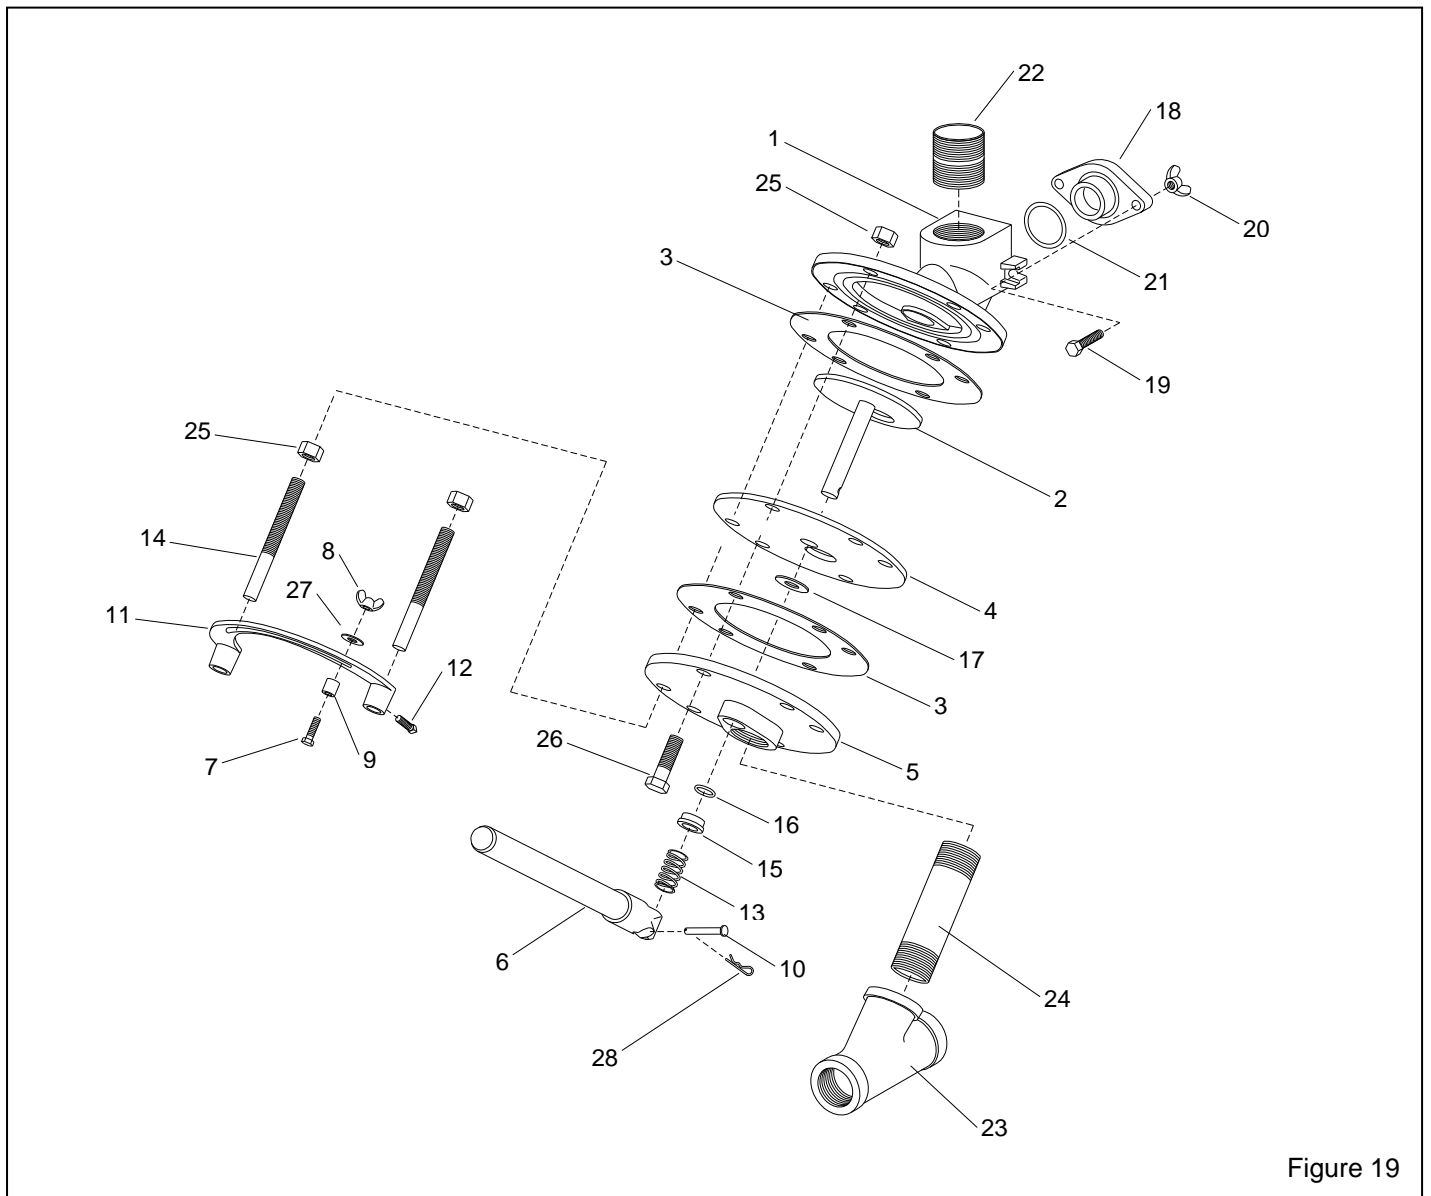

Figure 19
7.13 FSV Abrasive Metering Valve, Figure 19